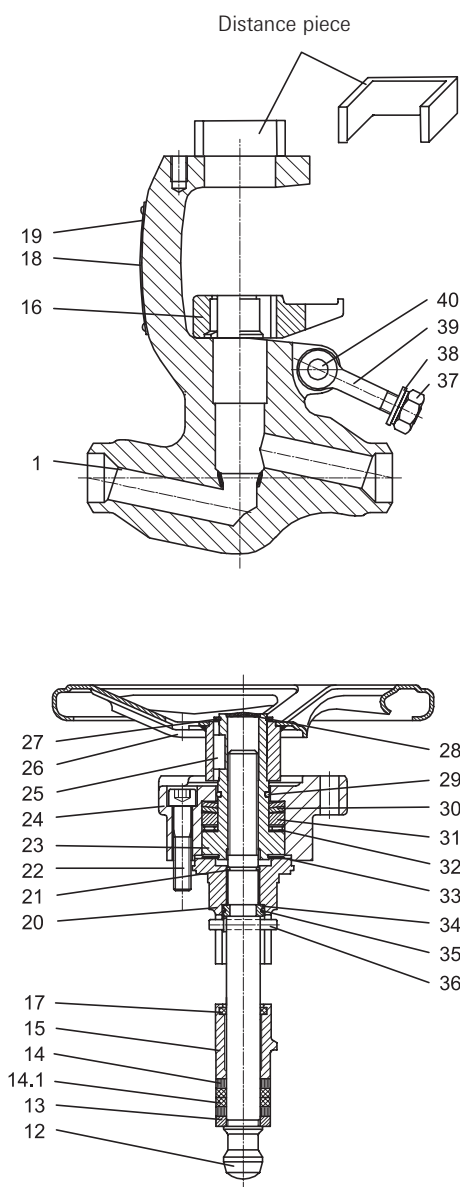

Fig. 4 – Dismantling the valve
Move disc stem (12) into position OPEN. Loosen hexagonal nuts (37), swing off eyebolts (39). Detach allen bolts (22). By turning handwheel (26) to the right, turn up complete valve yoke and slide in distance piece (D) (e.g. from the toolbox or alternatively screw in 2 allen bolts (22)) between body flange (1) and cover (24) (fig. 4).